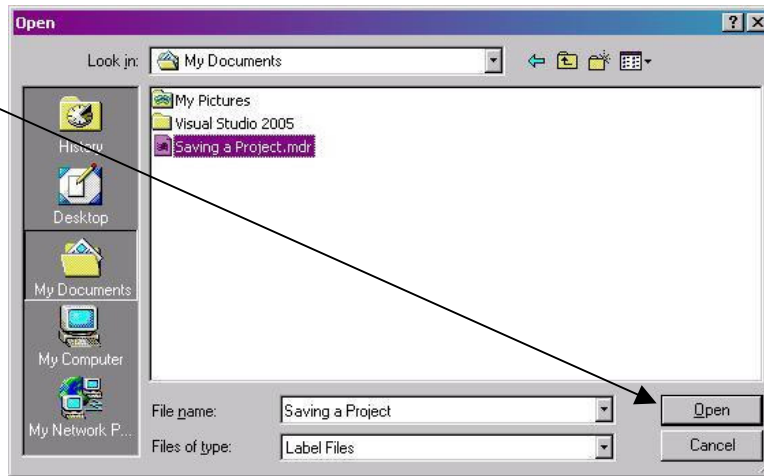

Figure 5.2.7: Loading a project
3. Click the open  button to have the label you picked open (see Figure 5.2.7).